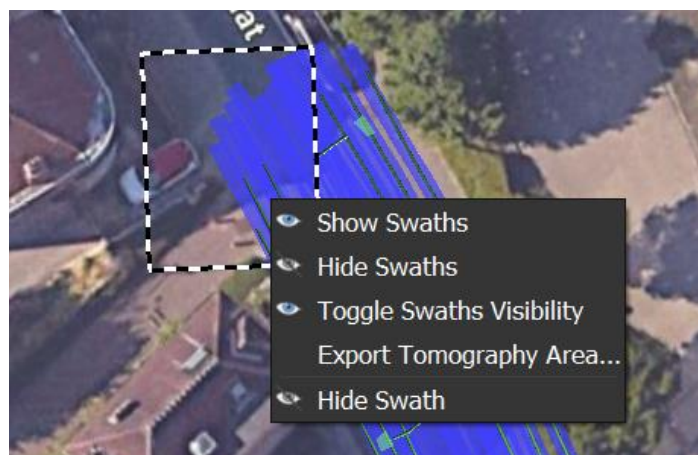

Fig. 46 Action that can be implemented in the selected area
- Right click on the selected area and select one of the options to implement on the selected area Fig. 46.